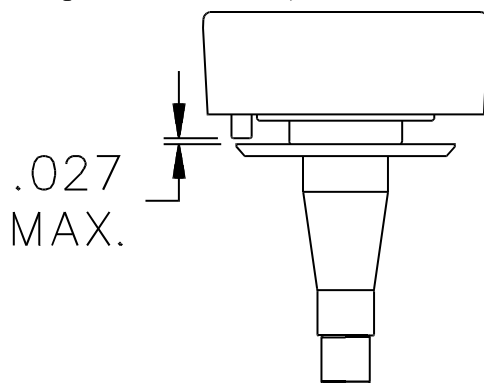

Figure 7 - ABS Sensor & Tone Ring Gap
8. Check physical gap between the sensor and tone ring (**Figure 7**). The brake drum must be removed to inspect gap. The maximum allowable gap is .027 inch. If the gap is greater than .027 inch, press on the wire lead end of the sensor and push the sensor into contact with the tone ring. Check that the ABS spring retainer and bushing are not unseated. Re-seat components as needed.